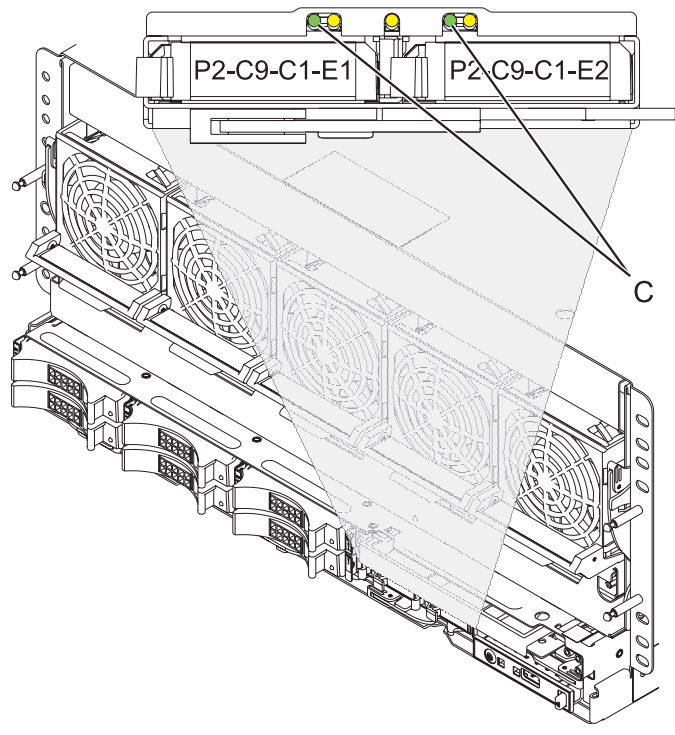

Figure 7. Cache battery LEDs
Attention: Do not remove the cache battery if the green LED (C) in Figure 7 on page 13 is flashing, because this indicates cache data exists.